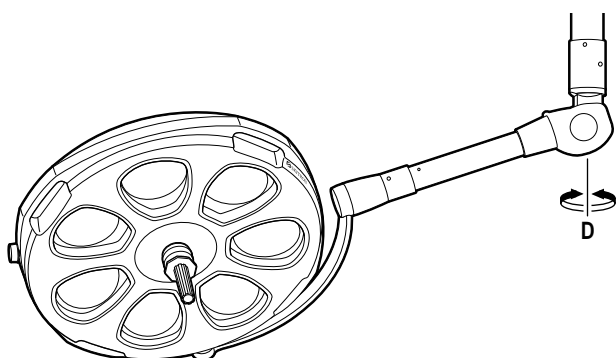

Figure 2-10. Horizontal Rotation
a. Check horizontal rotation axis adjustment by moving the lighthead through its full range of travel around the Balance Mechanism. See figure 2-10.